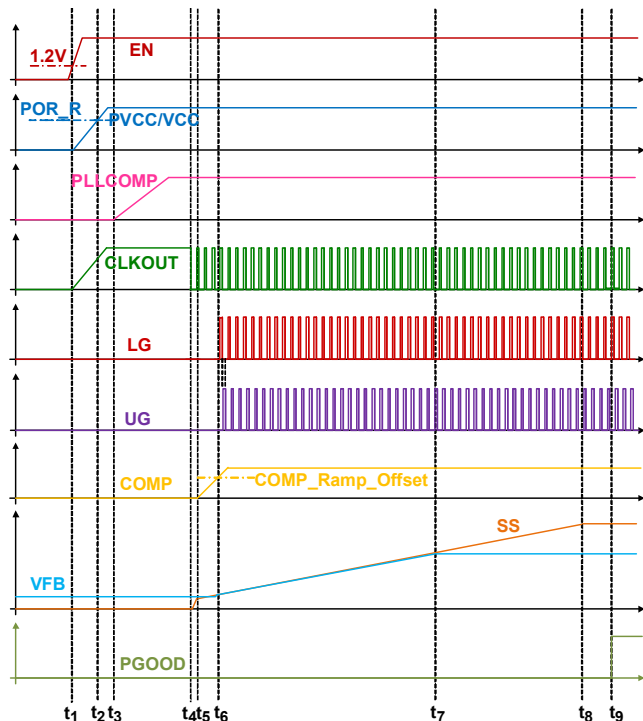

FIGURE 58. CIRCUIT INITIALIZATION AND SOFT-START
- There is no limit for the minimum voltage on the TRACK pin, but note the lower reference voltage and the lower voltage feedback regulation accuracy. Note the SS\_DONE signal is checking  $V_{REF\_TRK} \geq 0.3V$  as one of the conditions (refer to Figure 58 on page 29 and the  $t_g$ - $t_g$  description on page 29). Also, for the boost converter, the regulated output minimum voltage is usually the input voltage minus the upper MOSFET's body diode drop, in which case, the corresponding voltage at FB voltage is the minimum effective voltage for the  $V_{REF\_TRK}$ .
Before converter initialization, the EN pin voltage must be higher than its rising threshold and the PVCC/VCC pin must be higher than the rising POR threshold. When these conditions are met, the controller begins initialization and soft-start. Figure 58 shows the ISL78227 internal start-up timing diagram from the power-up to soft-start.
Assuming input voltage is applied to the VIN pin before  $t_1$  and VCC is connected to PVCC, as shown on Figure 58, the descriptions for start-up procedures are described as follows:
Diode emulation occurs during  $t_5$ - $t_8$  (on Figure 58 on page 29), regardless of the DE/PHDRP operating modes (Table 2).